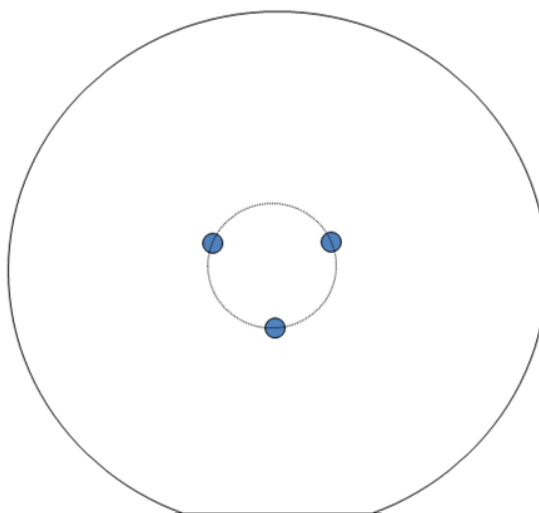

Fig.18: Lift pin positions in the process chamber: 3 spots at 120 degrees on a 30mm diameter circle.
6.1.9 In case of double-sided processing and/or through-wafer etch runs, realize that the wafer is lifted by 3 pins in the process chamber (*Fig.18*): wafer handling shouldn't be hampered by backside structures or weak spots on the wafer after deep etching (e.g. holes). The wafer and/or the handling mechanism will get damaged. Although the lift pins are slender (~2mm diameter), take at least 5mm diameter structure-free areas around the pin positions (based on an estimated tolerance on wafer placement accuracy).